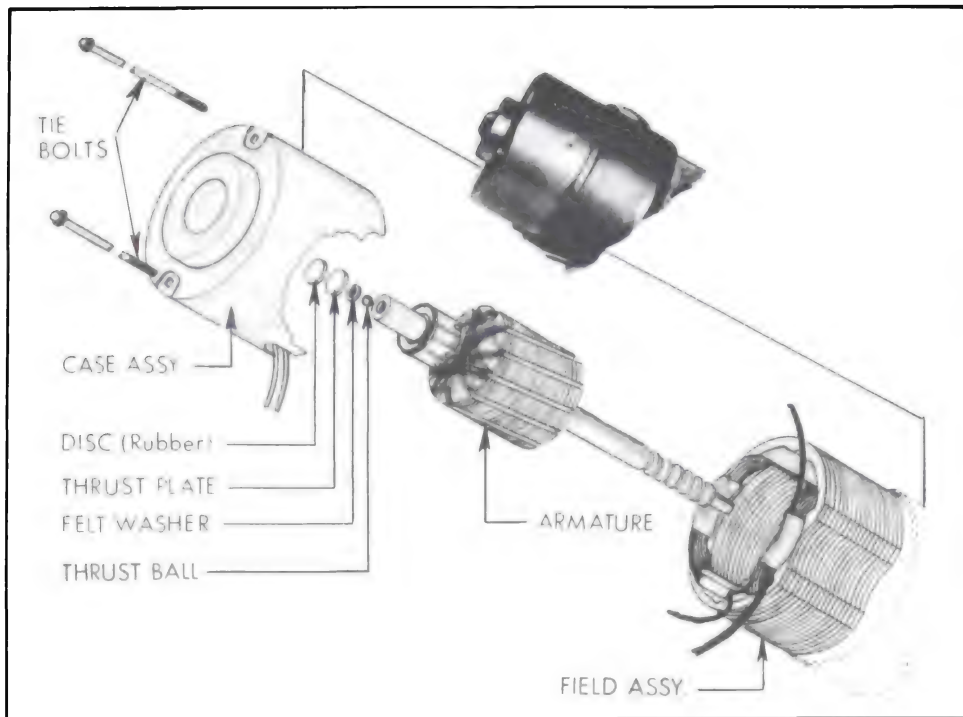

Figure 10-117—Motor Disassembly
1. Remove the two motor tie bolts. See Figure 10-117.
7. Remove the felt washer, thrust plate, and rubber thrust disc from the case assembly bearing as required. Refer to Figure 10-117.
2. Assemble the rubber thrust disc, steel thrust plate and felt washer in the order indicated. Refer to Figure 10-117.